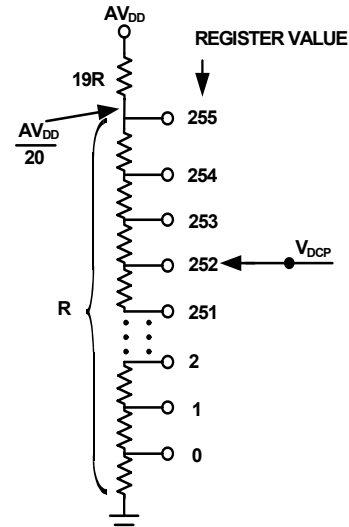
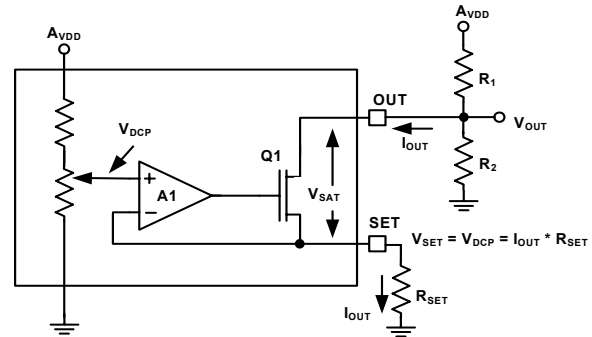

FIGURE 4. SIMPLIFIED SCHEMATIC OF DCP
FIGURE 5. CURRENT SINK CIRCUIT
**Electrical Specifications** Test Conditions: VDD = 3.3V, AVDD = 18V, RSET = 5k $\Omega$ , R1 = 10k $\Omega$ , R2 = 10k $\Omega$ , (See Figure 5). Typicals are at TA = +25°C. **Boldface limits apply over the operating temperature range, -40°C to +85°C.**
**Electrical Specifications** Test Conditions:  $V_{DD} = 3.3V$ ,  $AV_{DD} = 18V$ ,  $R_{SET} = 5k\Omega$ ,  $R_1 = 10k\Omega$ ,  $R_2 = 10k\Omega$ , (See Figure 5). Typicals are at  $T_A = +25^\circ C$ . **Boldface limits apply over the operating temperature range,  $-40^\circ C$  to  $+85^\circ C$ . (Continued)**
The ISL24202 uses a digitally controllable potentiometer (DCP), with 256 steps of resolution (Figure 4) to change the current drawn at the OUT pin, which then changes the voltage created by the  $R_1$  -  $R_2$  resistor divider (Figure 5). The OUT voltage can then be buffered by an external amplifier (A2) to generate a buffered output voltage ( $V_{COM}$ ) capable of driving the  $V_{COM}$  input of an LCD panel. The amount of current sunk is controlled by the setting of the DCP, which is recalled at power-up from the ISL24202's internal EEPROM. The EEPROM is typically programmed during panel manufacture. As noted in the "Electrical Specifications" section on page 4, the ISL24202 requires a minimum  $AV_{DD}$  voltage of 10.8V for EEPROM programming, but will work in normal operation down to 4.5V after the EEPROM has been programmed, with no additional EEPROM writing.
The DCP controls the voltage that ultimately controls the SET current. Figure 4 shows the relationship between the register value and the DCP's tap position. Note that a register value of 0 selects the first step of the resistor string. The output voltage of the DCP is given in Equation 1:
Figure 5 shows the schematic of the OUT current sink. The combination of amplifier A1, transistor Q1, and resistor  $R_{SET}$  forms a voltage-controlled current source, with the voltage determined by the DCP setting.